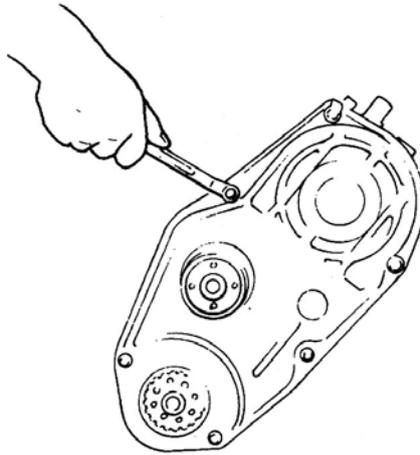

FIG.7-8
- (4) Remove timing belt outside cover (FIG.7-8)